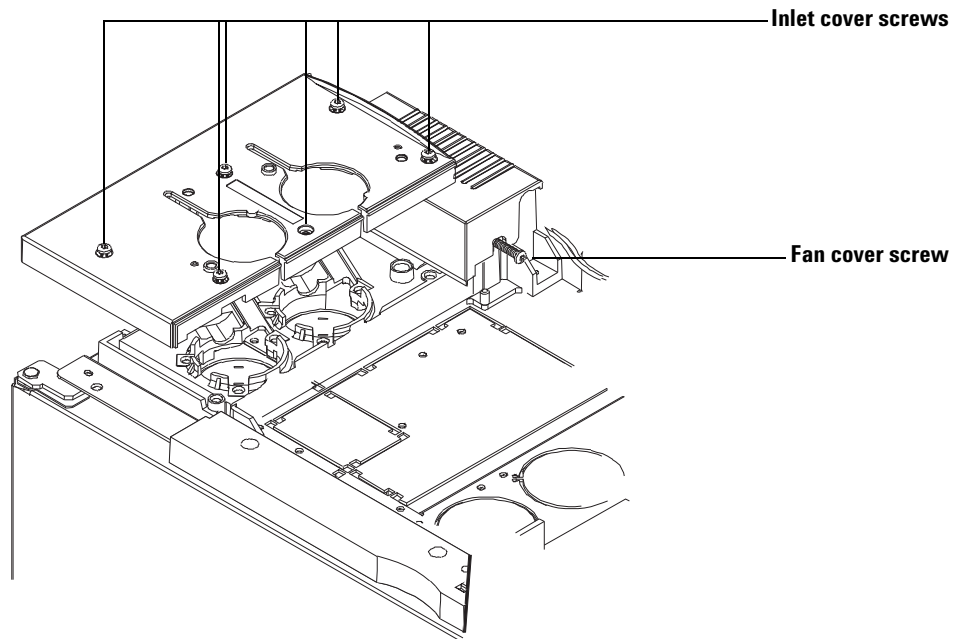

Figure 2 Removing the injection port top cover and inlet fan cover (6890 Series GC)
- 1 Loosen the Torx T-20 screw on the right side of the fan cover. See Figure 2 on page 31 for screw location.
- 1 Fully loosen the six Torx T-20 screws on the top of the cover (Figure 2).